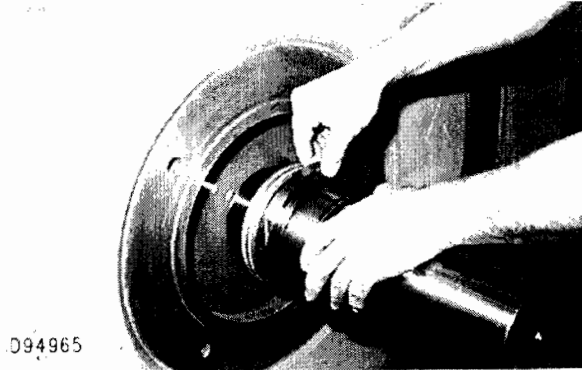

Figure 16
3. Fit the clamping rings with their joints rotated between 10 and 90 degrees from the joints in the inner race. Tighten all four clamping screws equally using a torque wrench. See figure 16.